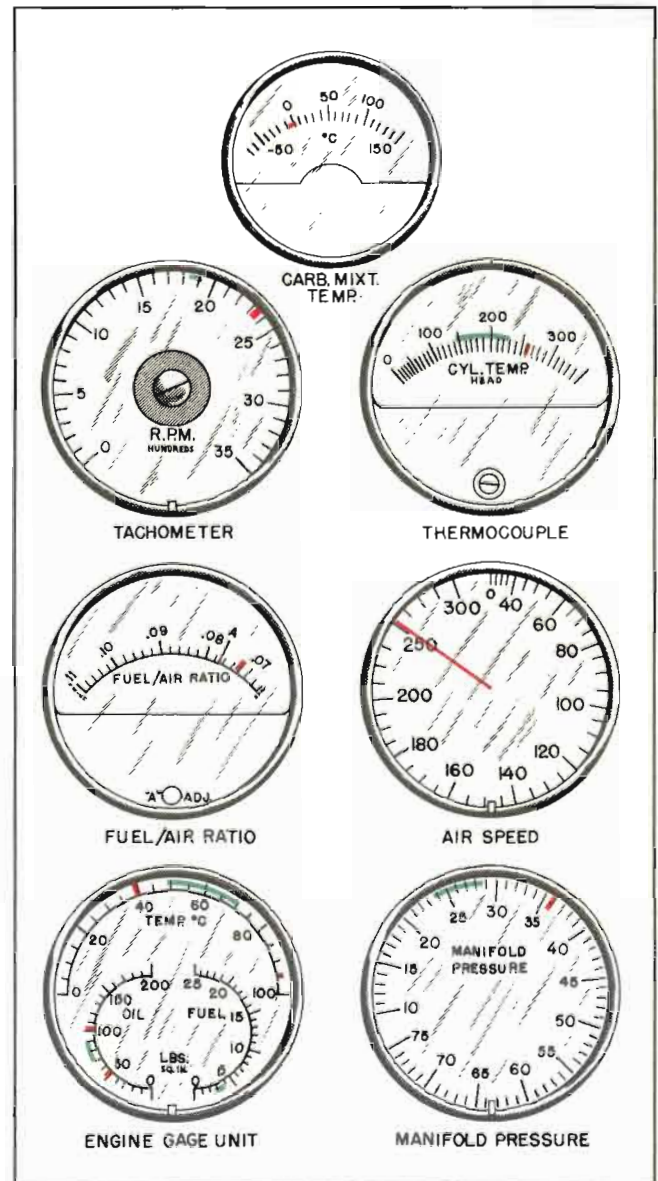

Figure 176 — Instrument Color Markings
(7) INSTRUMENT MARKINGS.—(See figure 176.)—All engine indicating instruments have markings to show normal and unsafe operating conditions. The green sector indicates normal operating conditions, and the red marks indicate the approach to dangerous or unsafe operating conditions. A fixed pointer on the airspeed indicator is set at 251 mph, the maximum safe driving speed.
(8) FUSELAGE DEMAGNETIZATION. — Excessive compass deviation may be caused by magnetized metal parts of the airplane's structure or by current-carrying wires. The underlying cause may be determined by heading the airplane to magnetic north and east,